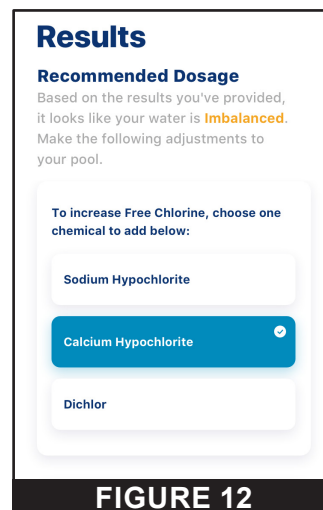

FIGURE 12
7. The Results screen will display. See **Figure 12**.